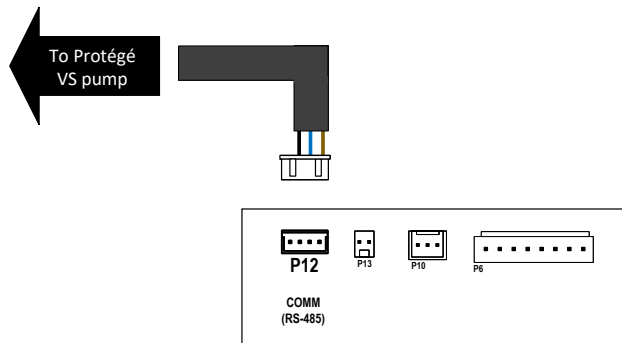

Figure 139. Wiring 24VAC Relays
- Then connect the other end of the RS-485 Modbus harness to the terminal labeled as "COM" [P12] on the control board. See Figure 139.